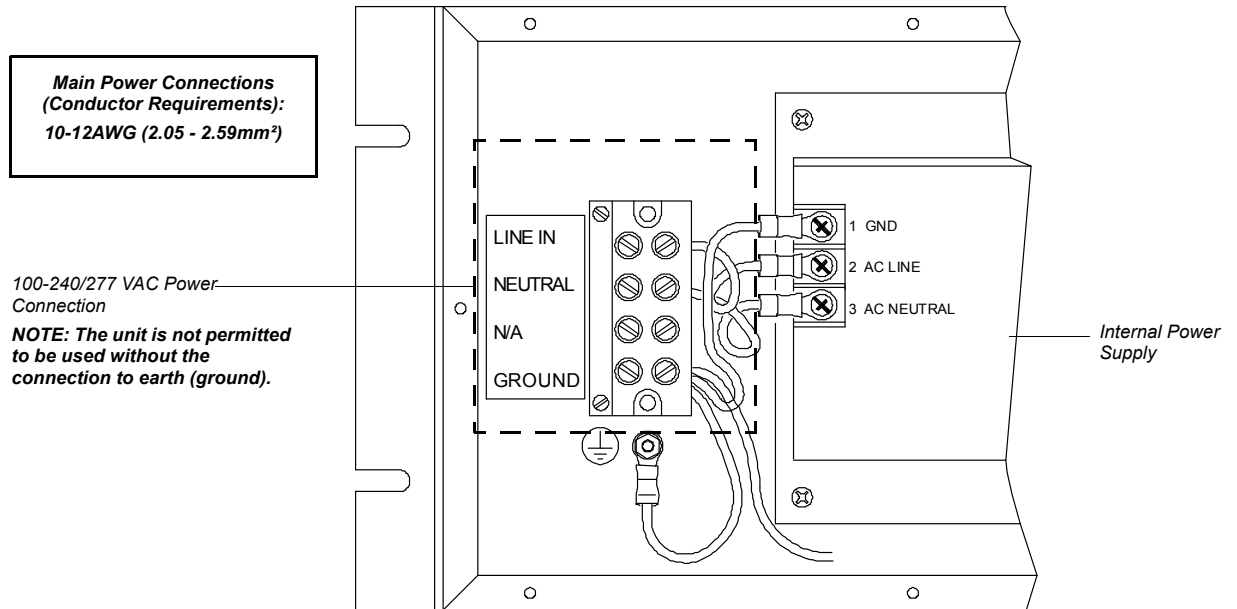

Figure 8: Input Power Connections
Step 9. Connect power wiring as shown in Figure 8.